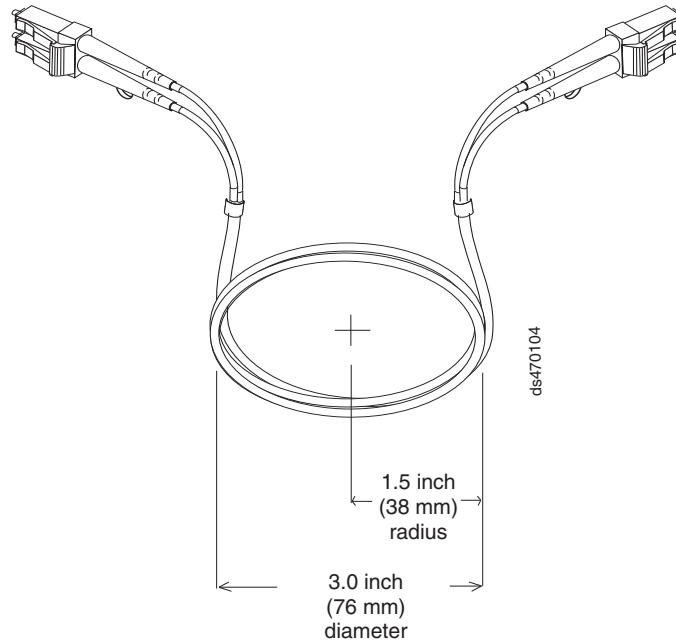

Figure 26. Recommended bending and looping specifications for fibre-optic cables
- When storing excess or unused fibre-optic cables, do not bend the cables to a diameter of less than 76 mm (3 in.), or a radius less than 38 mm (1.5 in.) or wrap them around themselves. See Figure 26 on page 47.